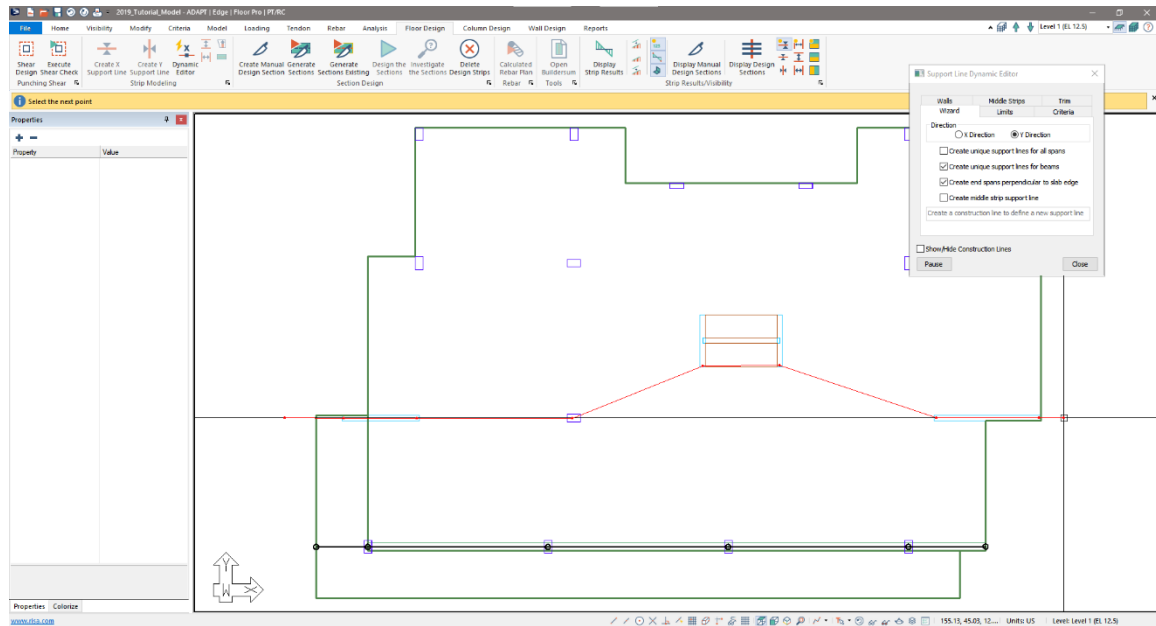

Figure 9-10
- Left-click the mouse outside of the slab region to enter the final point. At this point the users screen should look similar to **FIGURE 9-10**.